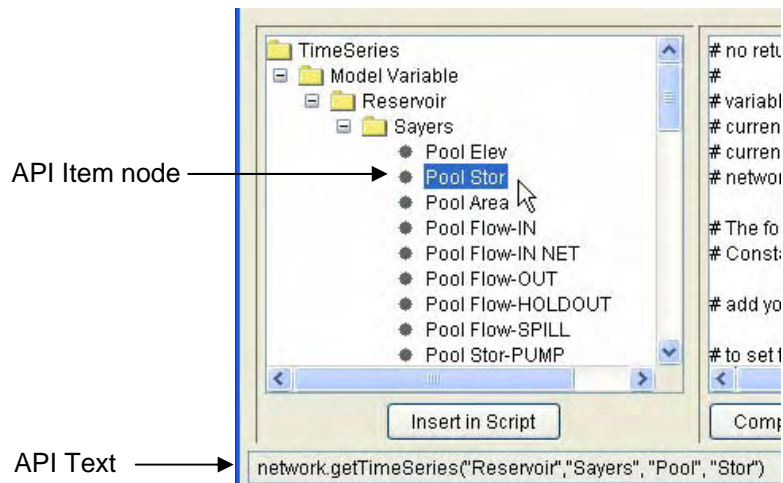

Figure 11.123 API Item Node in API Pane
- Selecting an item node (not a folder node) in the API pane causes the API text for the selected item to be displayed in the API preview bar (Figure 11.123).